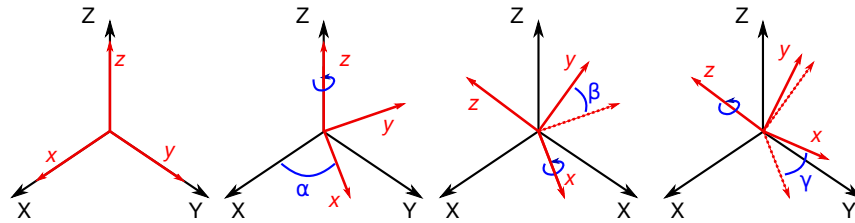

Figure 7-1. A rotation represented by Euler angles (α, β, γ) using $Z(\alpha)X(\beta)Z(\gamma)$ intrinsic rotations.
2. **Local Coordinate Systems.** It is possible to have the ICFD parts or ICFD_-PART_VOLs rotate around the global reference frame but also to define and use a local reference frame by defining its point of origin and two of its vectors $\mathbf{v}_1 = (X1, Y1, Z1)$ and $\mathbf{v}_2 = (X2, Y2, Z2)$. The third vector is, then, in the direction of $\mathbf{v}_1 \times \mathbf{v}_2$. See Figure 7-1.